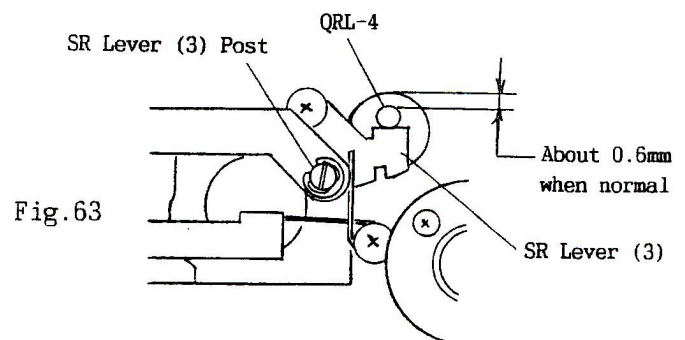

Fig.63
- 3) If the Shutter does not operate, make adjustment by turning the SR Lever (3) Post (eccentric pin). (See Fig.63)